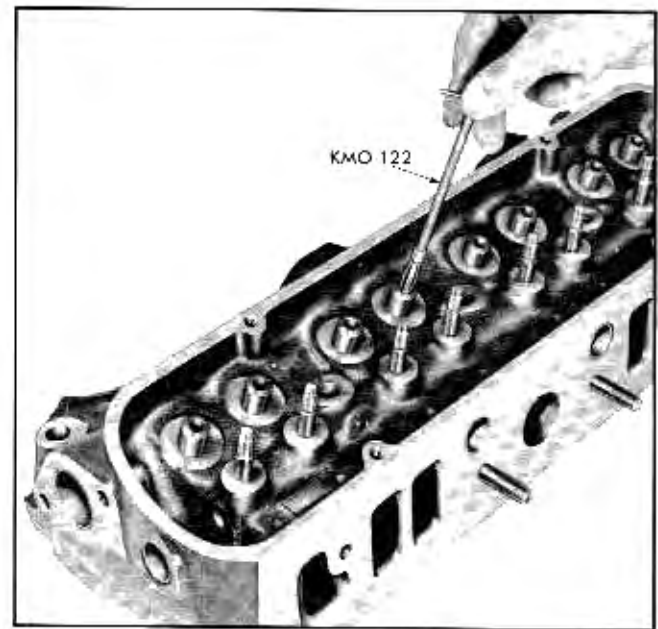

Fig. 6-41 Cleaning Valve Guide
5. Clean valve guides thoroughly using Valve Guide Cleaner KMO-122 (Fig. 6-41).